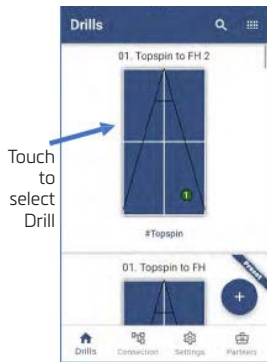

Figure 3-38
1. From the main Drill screen, select the Drill called [01. Topspin to FH 2] by touching/pressing the drill name or table icon below the name. (Figure 3-38)